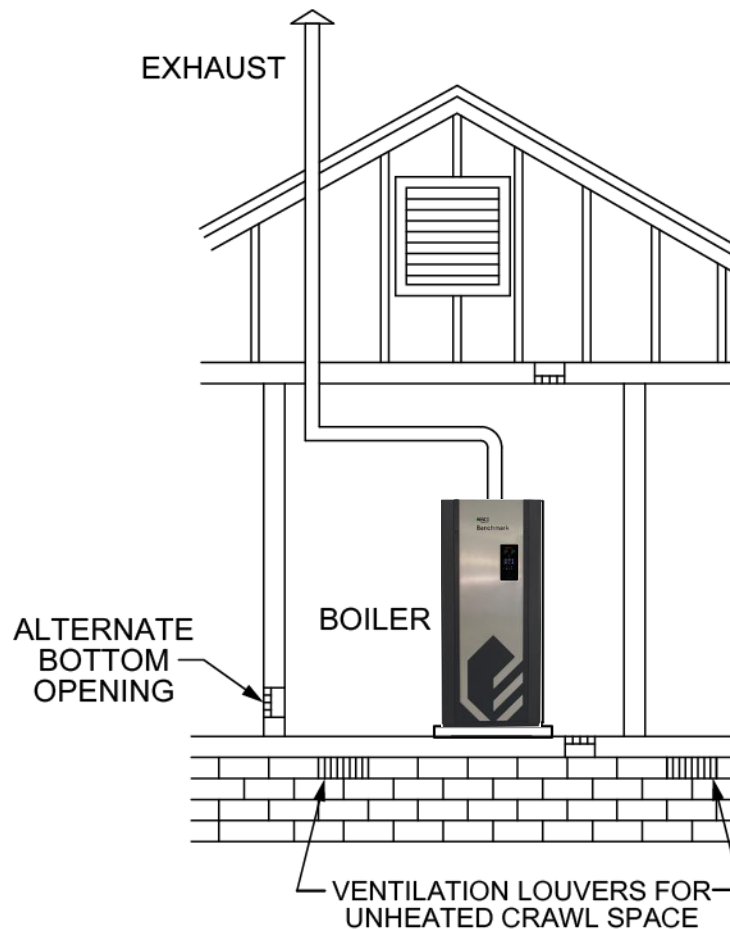

Figure 3: All Combustion Air from Outdoors - Inlet Air from Ventilated Crawl Space and Outlet Air to Ventilated Attic
1. When communicating directly with the outdoors, or when communicating to the outdoors through vertical ducts, each opening must have a minimum free area of **1 inch² per 4,000 BTU/hr. (550 mm²/kW)** of total input rating of all appliances in the space (see Figures 3 and 4).